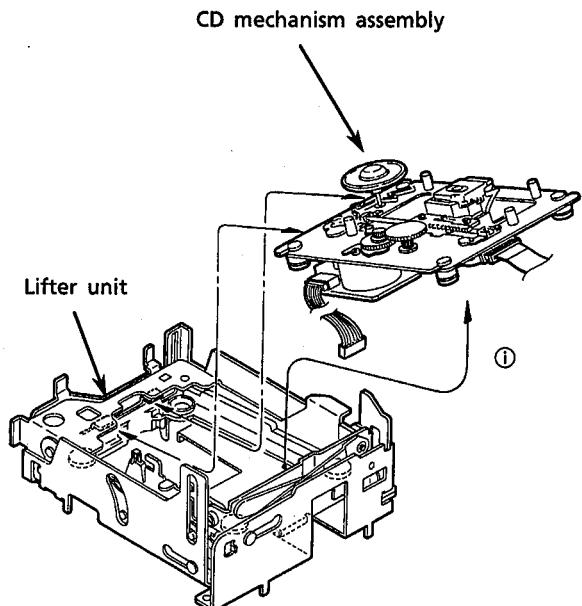

Fig. 38
2. Lift the CD mech. ass'y toward the direction ⑫ to remove it from the lifter unit. (See Fig. 38.)